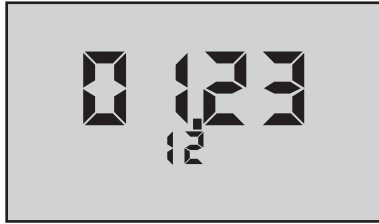

Figure 12
Example shown in Figure 12 is in US format, i.e., mo/dy/yr.
2. Press $\left(\frac{\text{MR}}{\blacktriangledown}\right)$ repeatedly until the date is displayed (scrolling through stored readings, “PC OFF”, “CLR ALL” and time to the date, e.g., “01.23 12” (Figure 12), January 23, 2012).